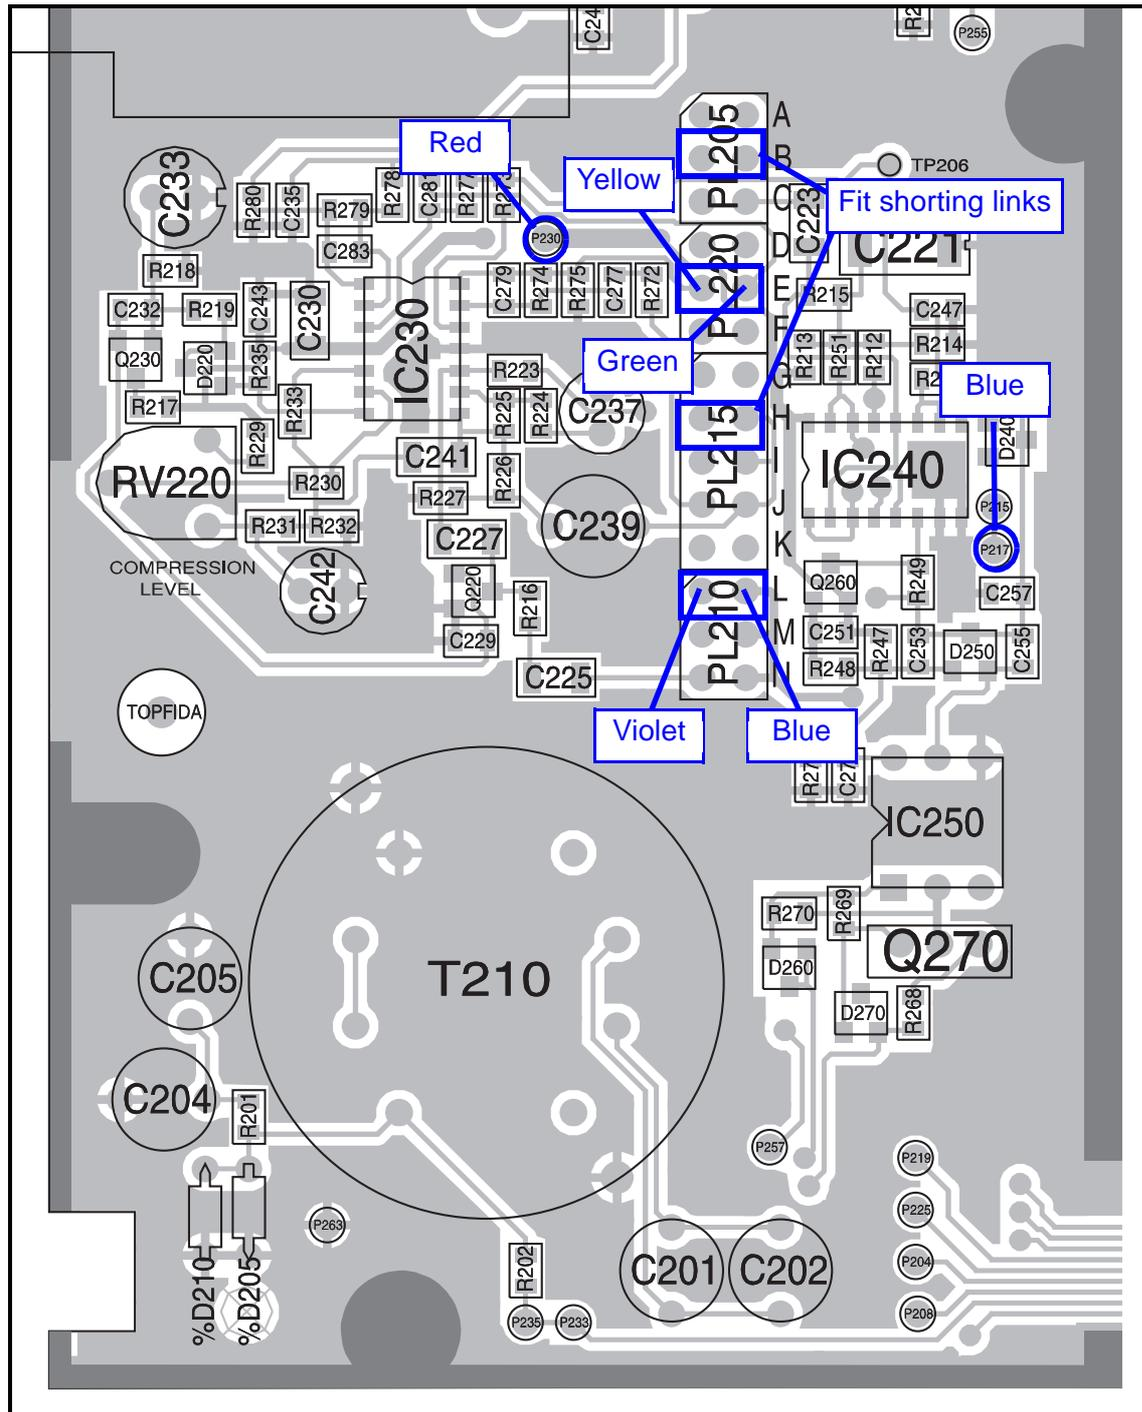

Figure 3 Bottom of T836 Audio Section
3. Remove the shorting links from L and E and fit them to B and H (see Figure 3).
4. Fit the connector with the blue and violet wires to L (see Figure 3).
5. Fit the connector with the yellow and green wires to E (see Figure 3).
6. Connect the blue wire (TX-EN-OPT) to P215 or P217 (see Figure 3).
7. Connect the red wire (+9 V) to P230, P240, or P239 (see Figure 3).